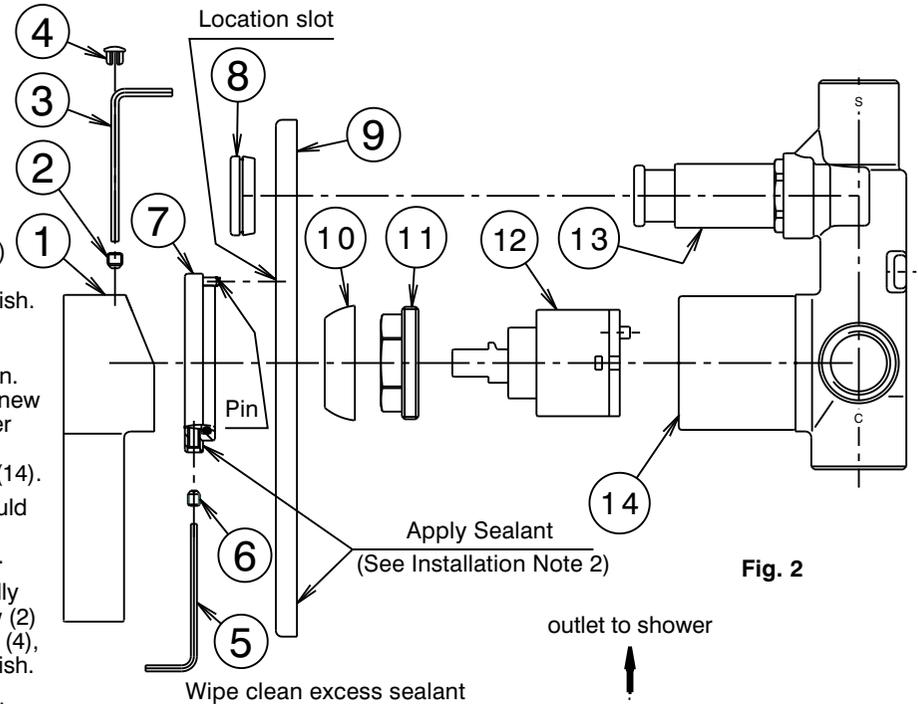

Fig. 2
- 2) Apply a suitable clear sealant to the back face of the cover plate (9), leaving an unsealed section at the bottom for drainage. Apply a suitable clear sealant in the corner around the location diameter of the retaining ring (7) to prevent water entering the wall cavity (See Fig 2).
Replacing Cartridge (Fig. 2)